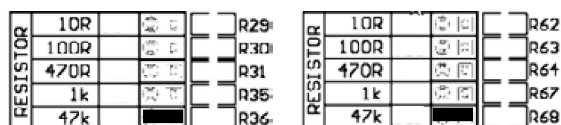

Figure 3: Left and right channel jumper banks default setting for resistance load adjustments
There are five (5) different settings available for setting the resistive load; 10 $\Omega$ , 100 $\Omega$ , 470 $\Omega$ , 1k $\Omega$  and 47k $\Omega$  (refer to figure 3).